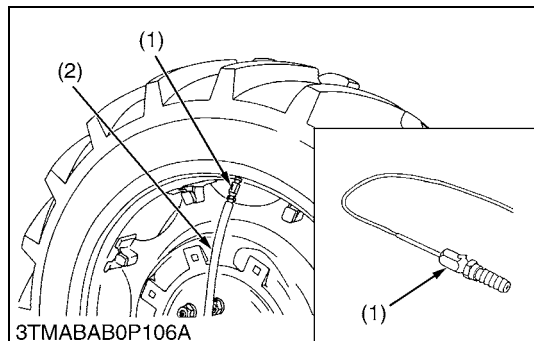

Fig. 1
1. Gravity injection (**Fig. 1**)